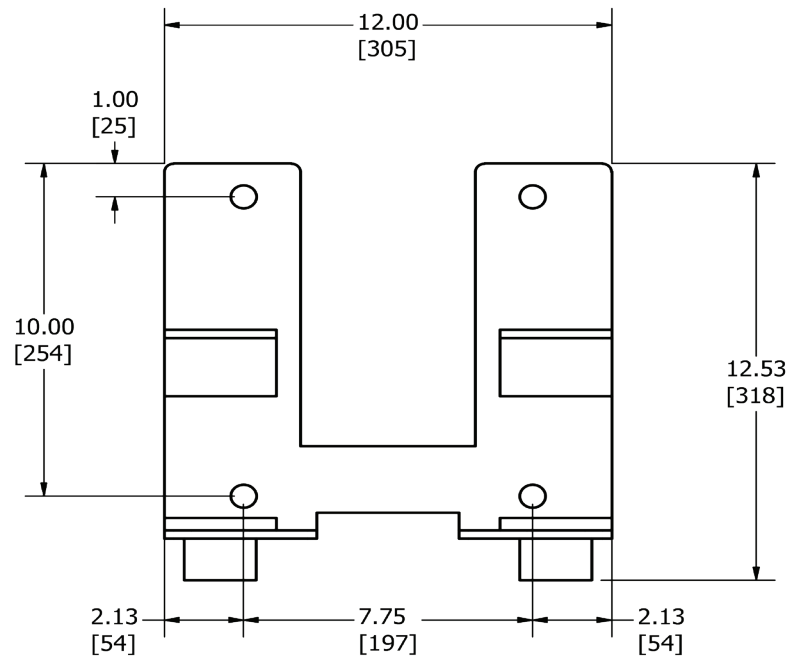

Figure 4. Mounting Bracket Hole Dimensions
The Mounting Bracket should be attached to the chute wall or conveyor structure using the four mounting holes and ½-13 UNC x 2 ½ inch hex head bolts. See Figure 4 for mounting hole dimensions.
- To determine the desired vertical location of the Mounting Brackets, locate the Mounting Bracket so that the bracket mounting holes are located below the bottom edge of the belt, at the dimensions shown in Figure 4.
- If the Razor-Back CSB HD is to be installed on a conveyor with an enclosed chute, it may require that slots and holes be cut to mount the cleaner. If required, mark and cut slots of the chute side wall to allow the Mounting Tube to pass. The required slot size/location and hole size/location are shown in Figure 4.